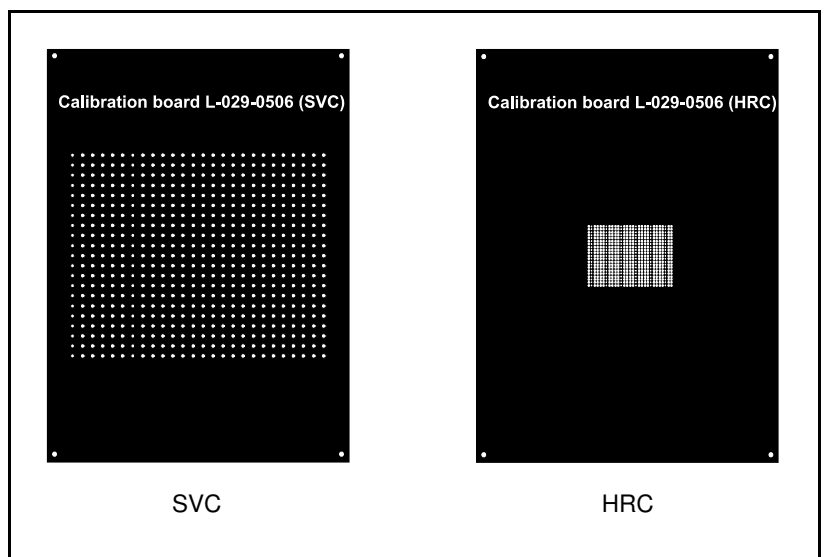

Figure 4-6. Calibration board (L-029-0506-3 Plate 506 ED-3).
- Calibration board (L-029-0506-3 Plate 506 ED-3), see Figure 4-6.
The calibration plate in Figure 4-6 is used for the calibration of the Standard vision camera (SVC) and the High resolution camera (HRC) in a dual vision system. A rubber cloth is provided with the plate. This cloth will keep the plate from slipping when placed on a board.